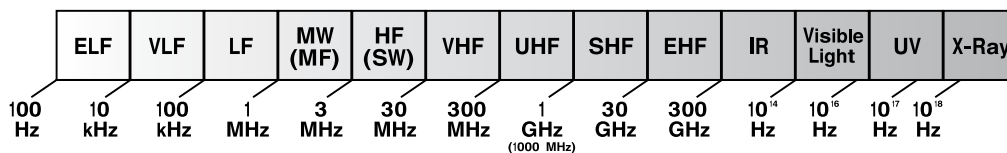

Figure 1: The Electromagnetic Spectrum
Radio Frequency (RF) does not refer just to radio broadcasting but rather encompasses all of the electromagnetic spectrum. RF energy is classified according to frequency. The range of frequencies is called the radio spectrum. While there is no precise beginning or end to frequencies making up the RF spectrum, Figure 1 shows the generally accepted ranges and class designations.